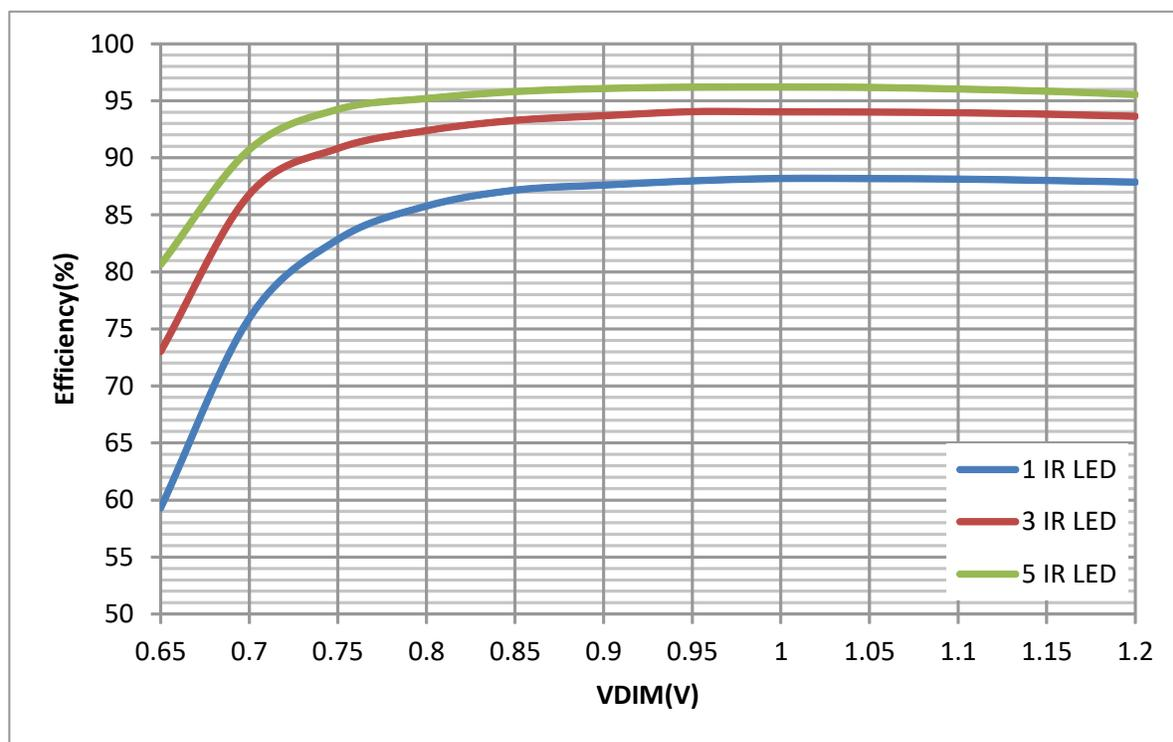

Figure 4-1. Efficiency vs. VDIM in Analog Dimming Mode(TPS92200D1RXLR), 1.5 A at VDIM>=1.2V, $V_{IN} = 12$ V
Figure 4-1 shows the efficiency versus VDIM in analog dimming mode. The maximum LED current is 1.5 A when the VDIM is 1.2V. $V_{IN} = 12$ V, and an infrared (IR) LED load is used. The typical forward voltage of an IR LED is 1.7 V at 1.5 A. The LED number in series is 1, 3, and 5, respectively.